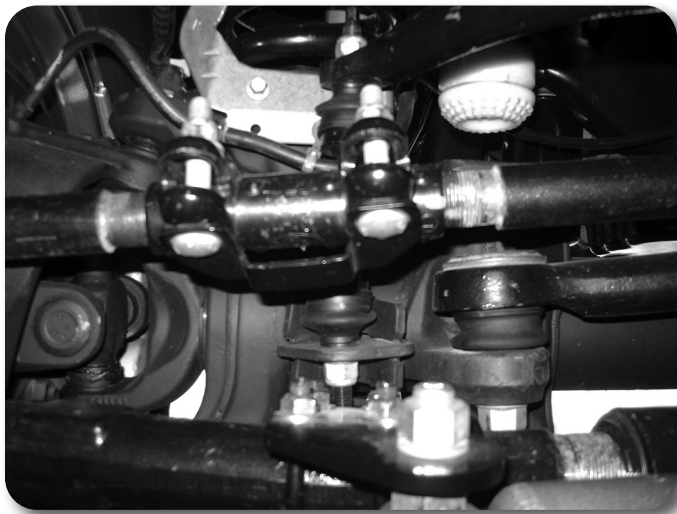
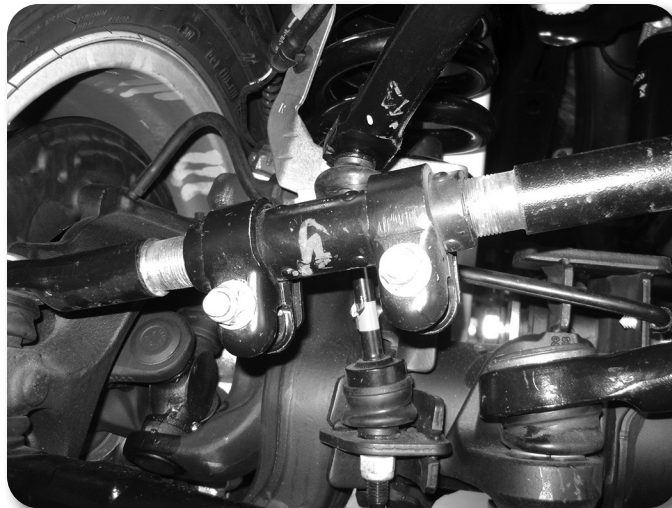

Figure 22A *Incorrect*
Figure 22B *Correct*
4. Adjust steering wheel with adjustment on the draglink, do NOT drive the vehicle with the steering wheel off-center or adverse traction control affects may arise. Rotate the clamps once the steering wheel is straight as shown. (Figure 22A - incorrect, clamps will interfere with sway bar, Figure 22B - correct clearance). Torque clamps to 41 ft-lbs. Thread the collar to lengthen the drag link.